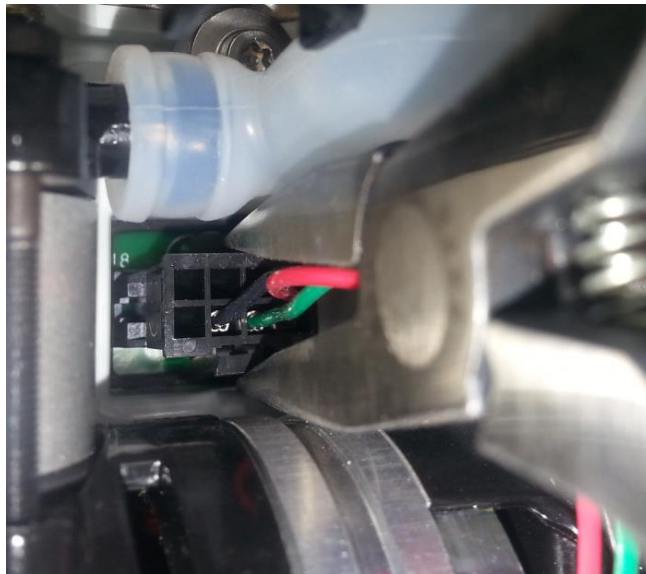

Figure 5: Detach compressor cable from motherboard
1. To gain access to the breath detect, the motherboard must be removed. Locate the compressor cable. Detach the compressor cable from the motherboard using long pliers to press down on the release clip while pulling on the wire connector (Figure 5). *Do not pull on the compressor wires.*